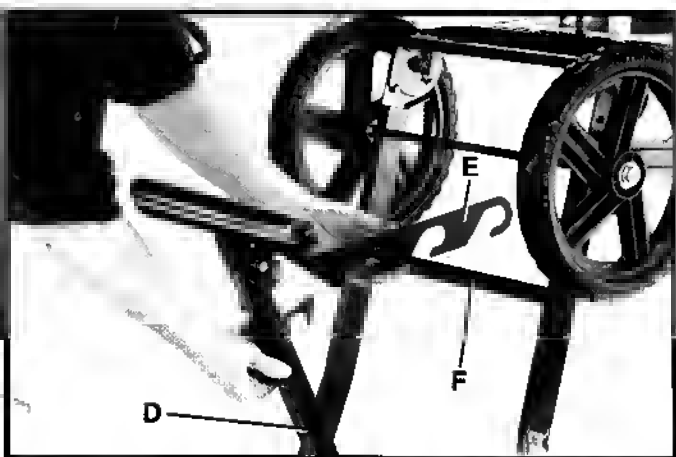

Fig. 47
2. Pull out arm (D) Fig. 47, of roller extension and position one of the three stops in bar (E) onto bar (F).